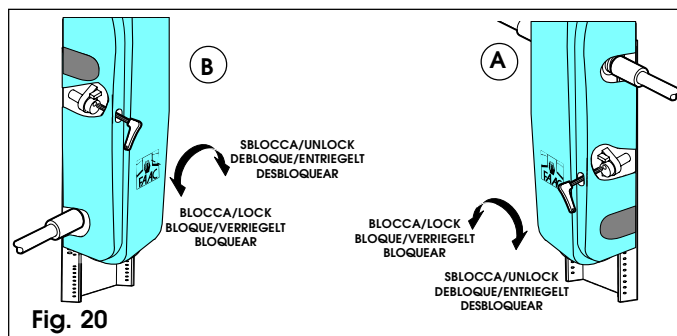

Fig. 20
- From inside (Fig. 20)
- From inside (Fig.20)